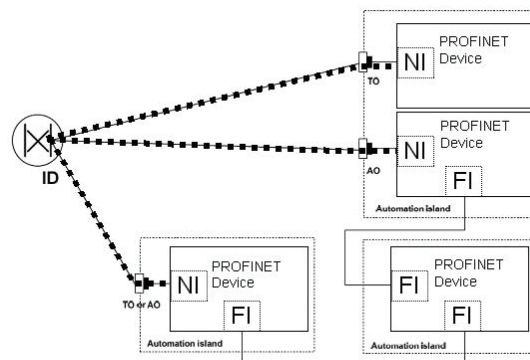

Figure 6: PROFINET CONFORMANCE CLASS A with reduced automation island
Figure 4: Connection of generic cabling to the fieldbus network via a converter; corresponds to IEC 61918 - Figure 6 - Automation island network external connections
- A PROFINET-compliant network can be configured on the basis of the ISO/IEC 24702 structure (Figure 6)
*The connections shown in the figure 6 are all possible connections. They should be selected in a way that no physical loop arises.*